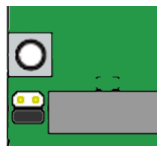
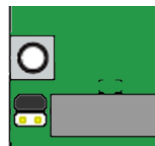

Figure 3. Emergency stop switch Enabled
Figure 4. Emergency stop switch Disabled
- Enable/Disable Emergency stop switch jumper, see Figure 3 and Figure 4.
Emergency stop switch is used for unconditional stepping motor power down. It can stop stepper motor forcedly if it is impossible to do by software in consequence of program error. This sensor is connected directly to power down circuit of Power driver. Emergency stop switch must be a dry break contact. There is no possibility to control this switch by software, only monitoring is possible. If Emergency stop switch is not used, set emergency stop jumper in Off position (see Figure 4), otherwise in On position (see Figure 3).